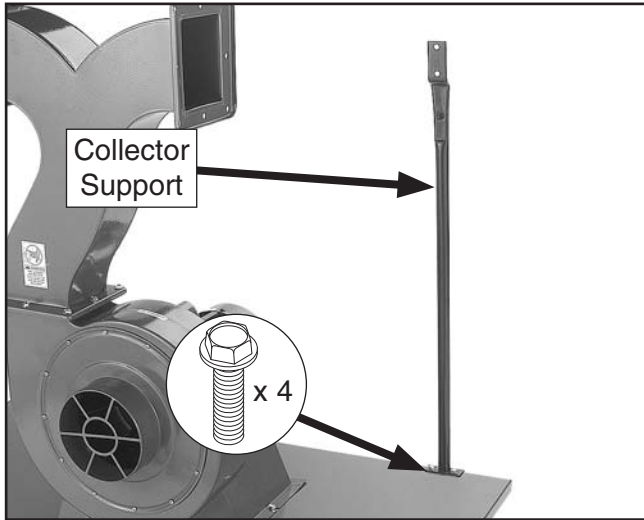

Figure 13. Collector support installed.
- Align each of the collector supports with the mounting holes on the base, as shown in **Figure 13**, then secure them in place with (4) $\frac{5}{16}$ "-18 x $\frac{1}{2}$ " flange bolts.